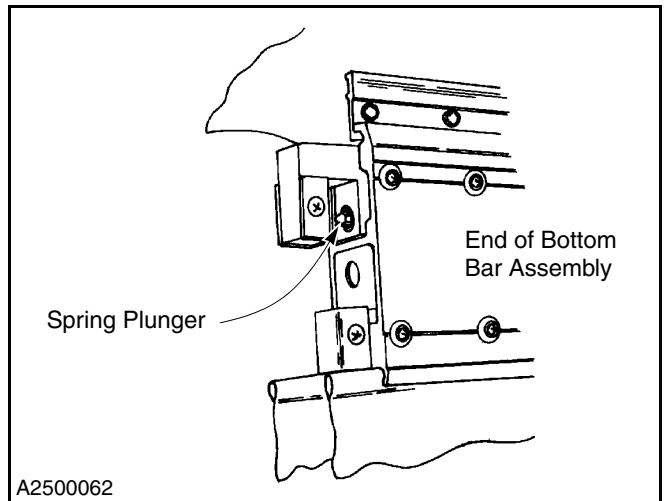

Figure 40
7. **Spring Plungers:** A spring plunger at each end of the bottom bar assembly must be lubricated with a good-quality penetrating oil. (See Figure 40.)